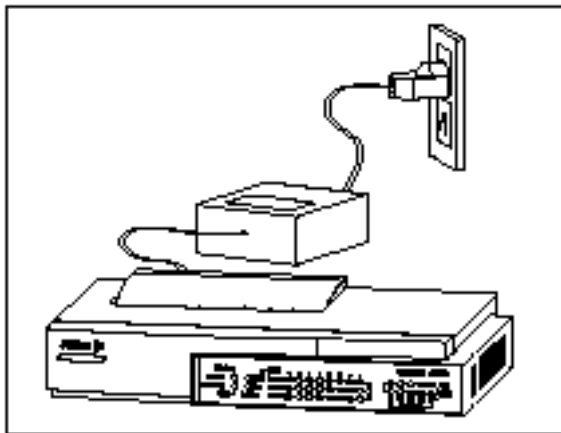

Figure 2-5 Power on the hub and make it ready
2.1.5 Plug the power cord into the outlet on the wall and check if the power LED lights up. If it lights up, then the hub is ready to be connected to the network, as shown in *Figure 2-5*.